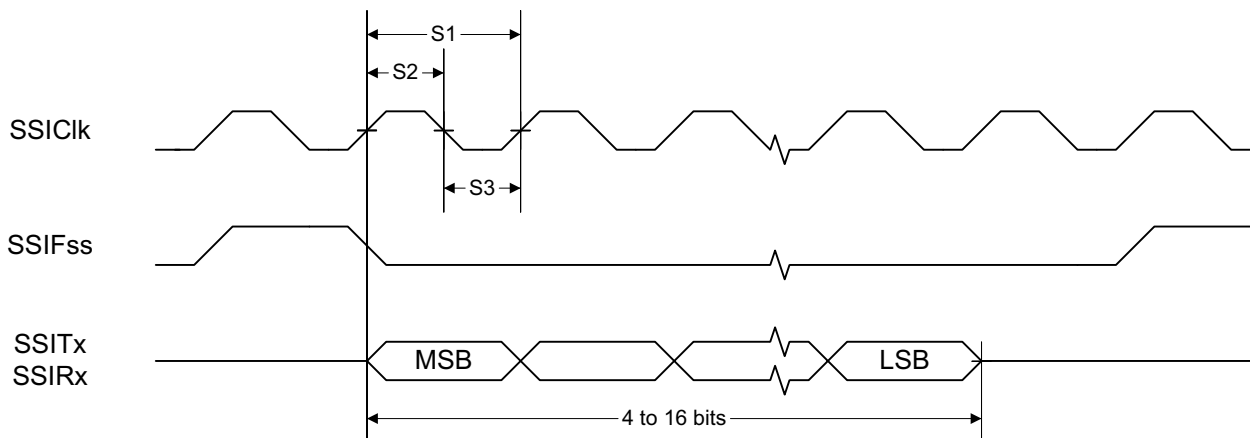
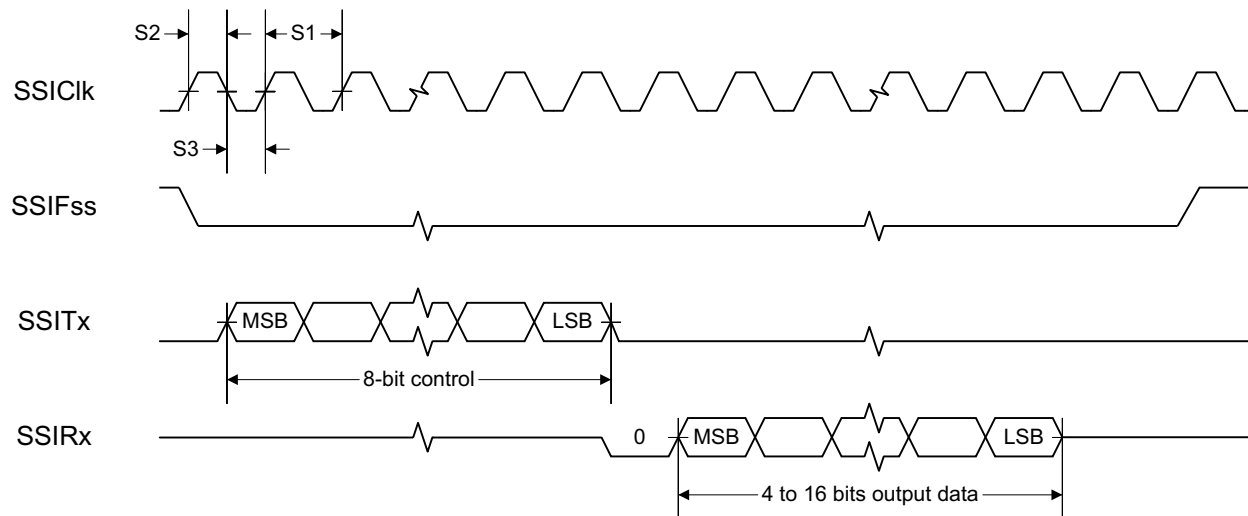
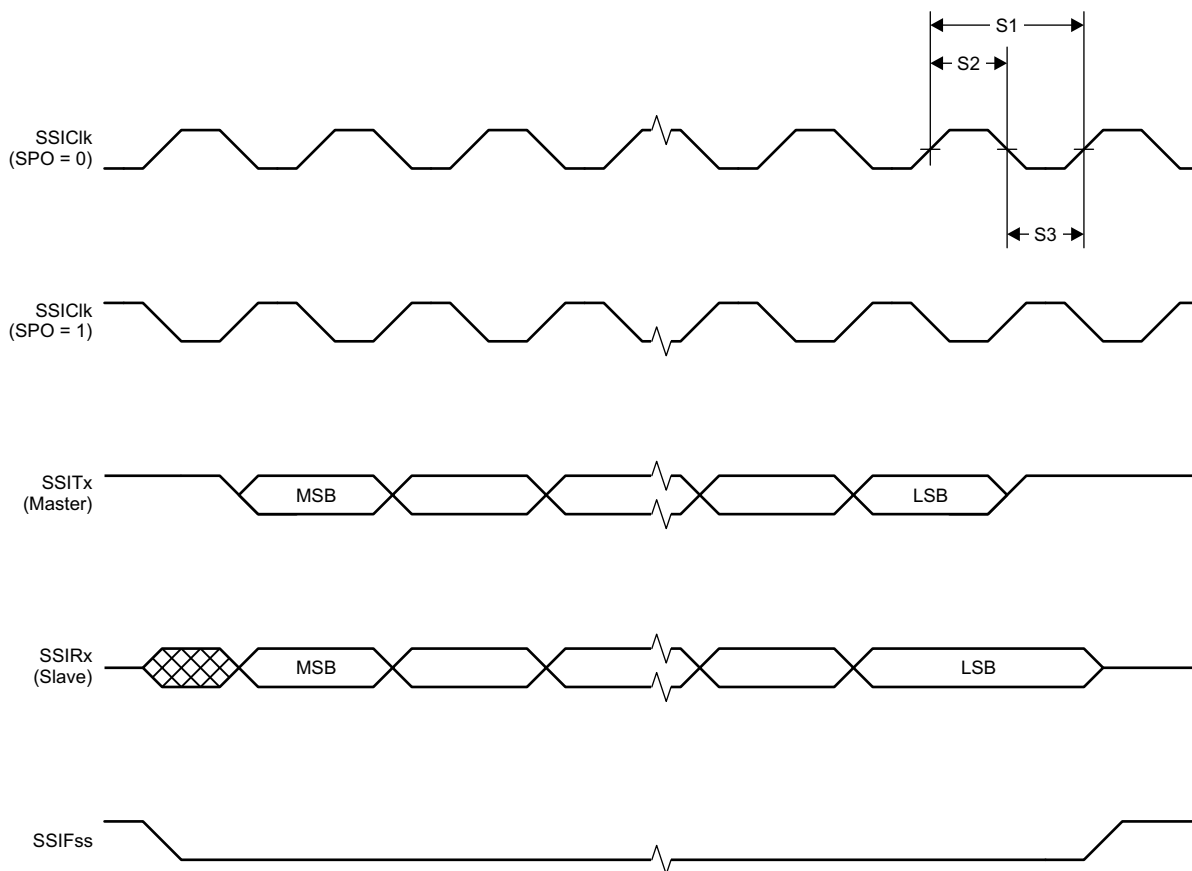

Figure 5-1. SSI Timing for TI Frame Format (FRF = 01), Single Transfer Timing Measurement
Figure 5-2. SSI Timing for MICROWIRE Frame Format (FRF = 10), Single Transfer
Figure 5-3. SSI Timing for SPI Frame Format (FRF = 00), With SPH = 1
- (2) Applications using RCOSC_LF as sleep timer must also consider the drift in frequency caused by a change in temperature (see Section 5.13).
- (3) T_A = -40°C to 85°C, V_{DD5} = 1.7 V to 3.8 V, unless otherwise noted.
- (4) T_C = 25°C, V_{DD5} = 3.0 V, unless otherwise noted. Device operating as SLAVE. For SSI MASTER operation, see Section 5.23.
- (5) Refer to SSI timing diagrams Figure 5-1, Figure 5-2, and Figure 5-3.
- (1) Device operating as MASTER. For SSI SLAVE operation, see Section 5.22.
- (2) Refer to SSI timing diagrams Figure 5-1, Figure 5-2, and Figure 5-3.